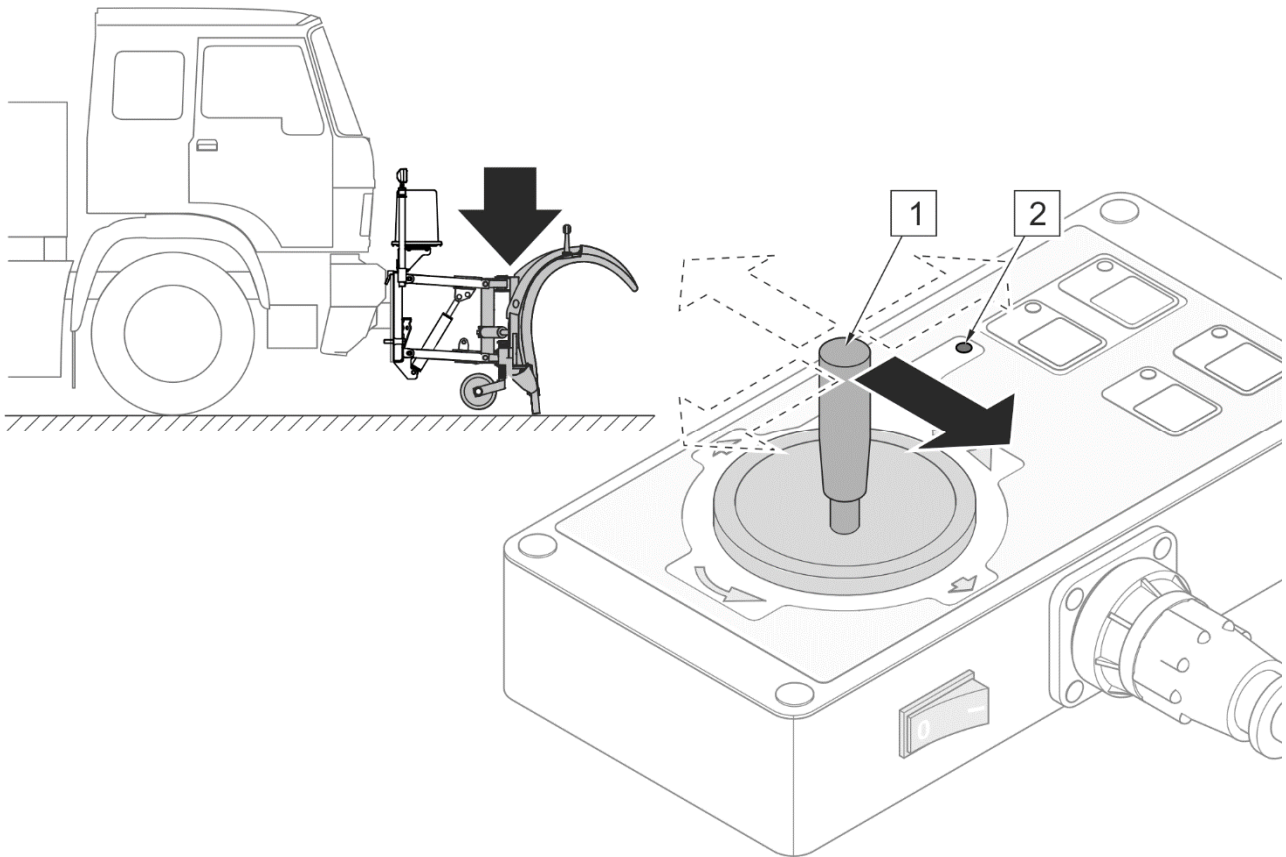

FIGURE 4.14 Hydraulic press-down function (option)
(1) - joystick; (2) - Power-Pack ON indicator light
In the snowplough featuring the press-down function (option), after lowering the snowplough and holding the joystick (1) in the lower position (FIGURE 4.14), the snowplough blades are pressed down to the ground. Red indicator light (2) is ON during Power-Pack operation. When the joystick is released, hydraulic press-down function is switched off.